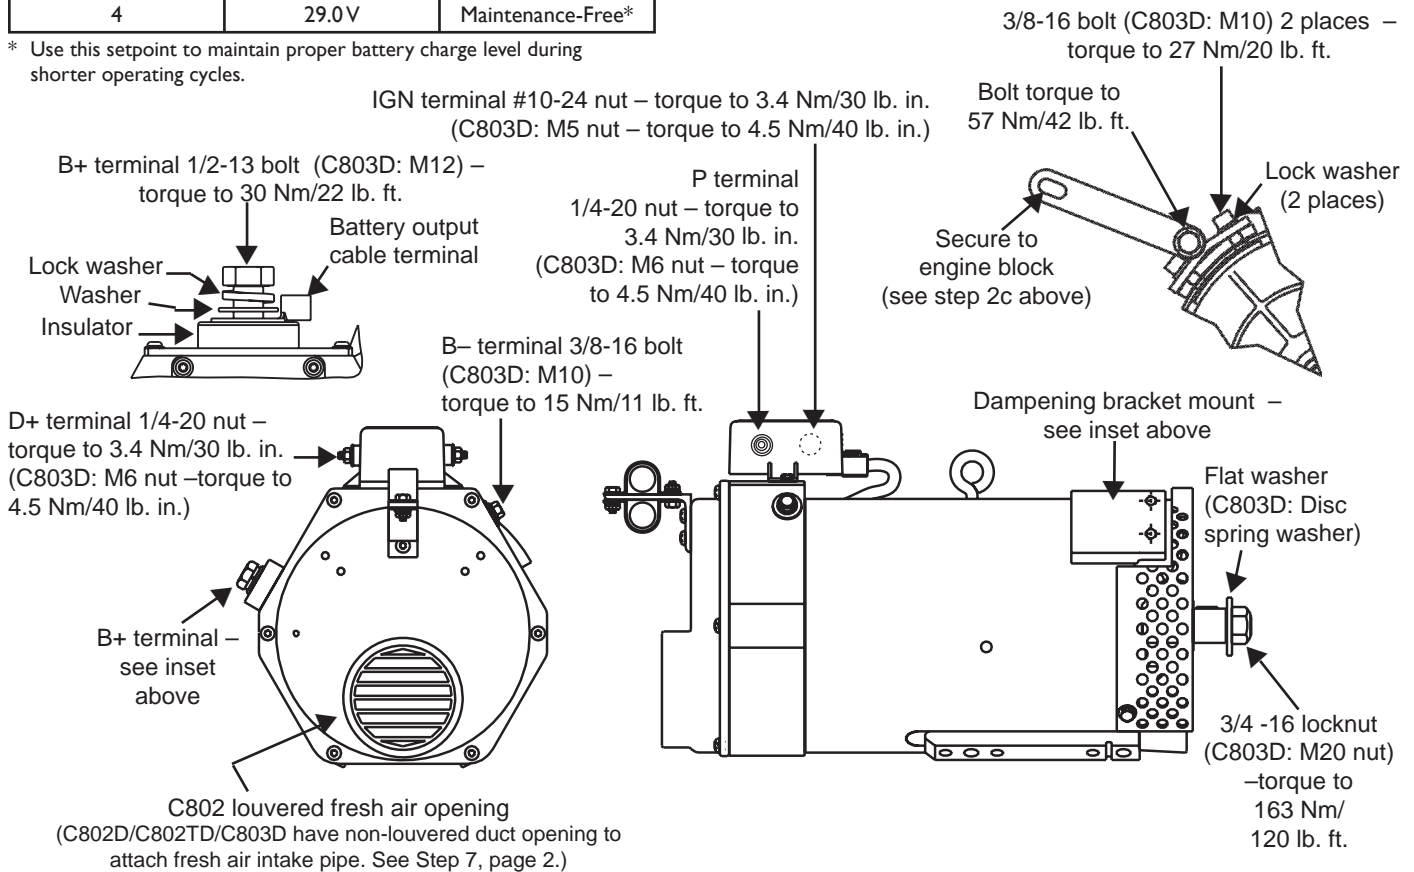

Figure 1 - C802/C802D/C802TD and C803D Alternator Installation Details
- c. Some alternators are furnished with a vibration dampening bracket (CEN part no. A4-104). Attach one end of bracket to drive end housing and other end to engine. See Figure 1. See engine manufacturer's torque specification for engine gear case bolt torque.